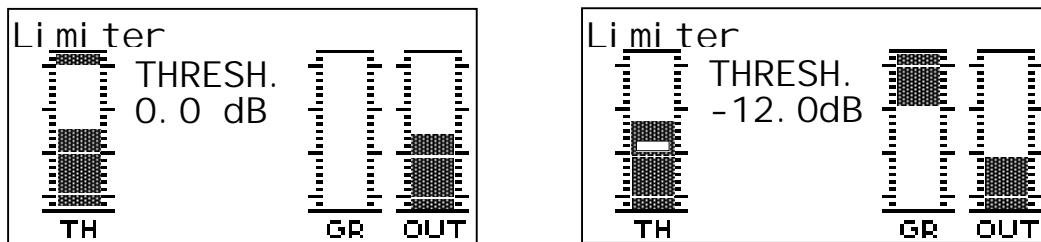

Fig. 36. Limiter display (left) and Limiter Threshold while editing (right)
- GR (Gain Reduction): This bar shows when the limiter is active (the threshold value is being exceeded by the input level). The gain reduction level will display as an inverted VU bar (see Fig. 36, right).